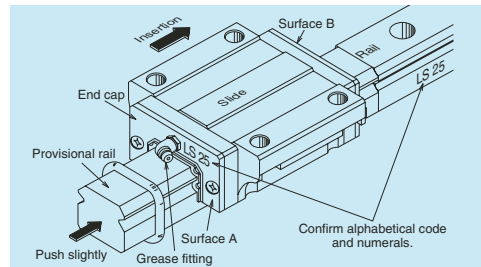

Fig. 10.23 Inserting slide into the rail
- Slides of random-matching type are assembled on a provisional rail (an inserting tool) when it is delivered (Fig. 10.23).
- (1) Wipe off the rust preventive oil from the rail and slide.
- (2) Please match a groove mark for the datum surface of slide and rail to set a desired assembling state  $W_2$  or  $W_3$ .
- (3) Align the provisional rail to the rail in the bottom and side surfaces. Press the provisional rail lightly against the rail, and move the slide over the rail (Fig. 10.23).